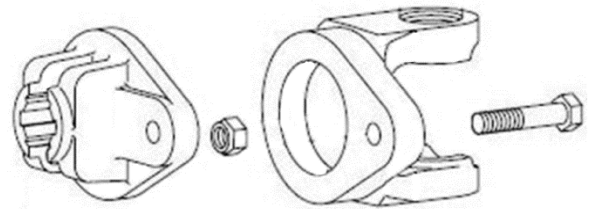

Figure 6.3
- 6.4.3.7 Remove any bolt remains from the universal joint and replace the shear bolt with the correct grade of new bolt. Four spare shear bolts and nuts are supplied with each new machine. These are stored on the 'A' frame or the headstock gearbox mounting plate. Ensure the bolt is correctly tightened, see Figure 6.3.